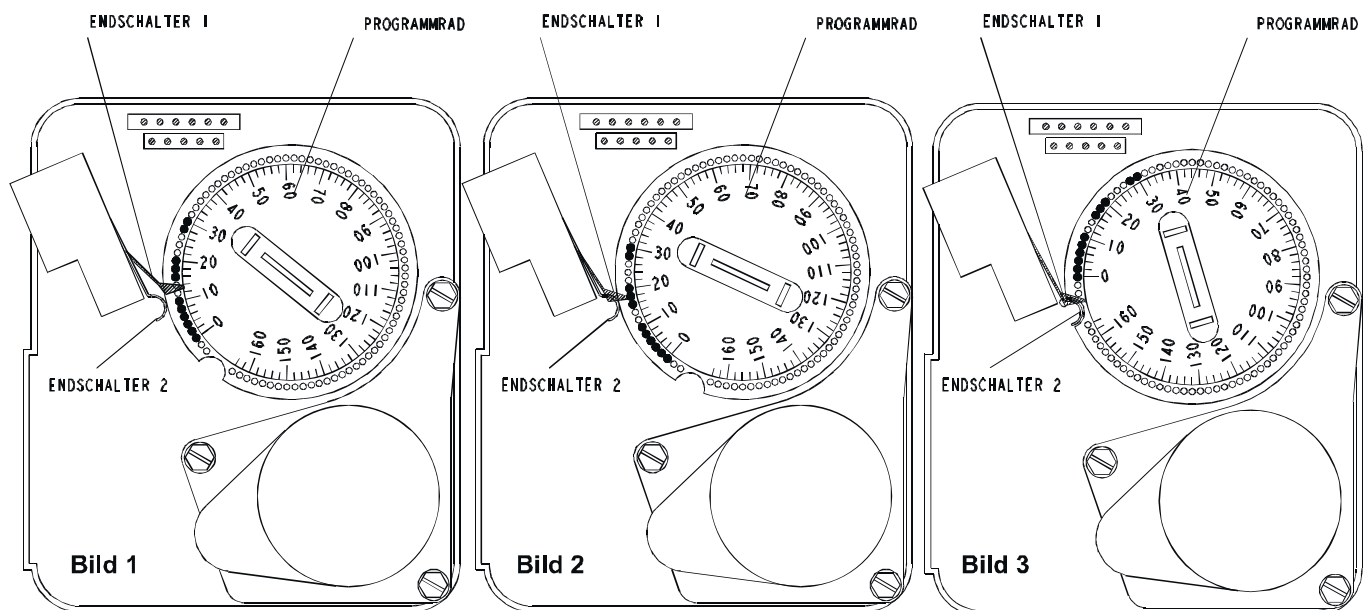

Fig. G-1: Rear of timer
- Release a manual regeneration (refer to chapter F, item 1.4).
- Flip the timer to the right and wait for 10 minutes until limit switch 1 is free (Fig. G-1, picture 1) and the actuator of the control piston has stopped.
- Wait until limit switch 1 is pressed again (Fig. G-1, picture 2) and the actuator of the control piston has stopped.
- The deferrisation system is ready for operation again when the limit switches 1 and 2 are free (fig. G-1, picture 3).